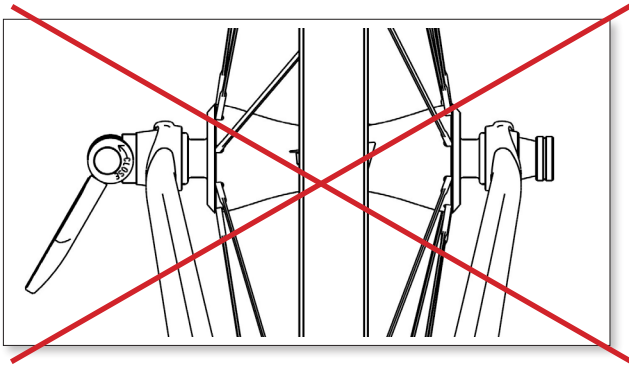
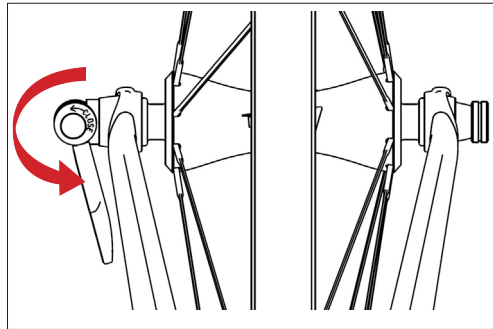

Figure 6
Figure 7
- Conversely, if you find that it is impossible to close the lever fully (**Figure 7** shows the lever properly closed and the **Figure 6** shows that the lock is not closed properly), this means that the closing force is too high: Put the lever in the open position, unscrew the nut by 1/8 of a turn and close the lever.